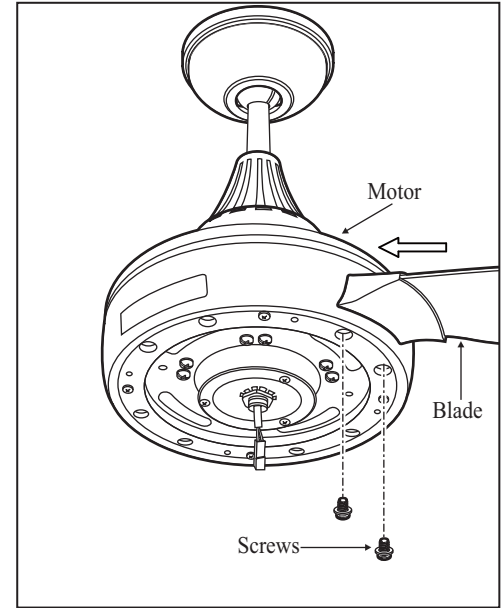

Figure 16
3. Insert the blade assemblies through the slots in the bottom band. (Fig. 16)